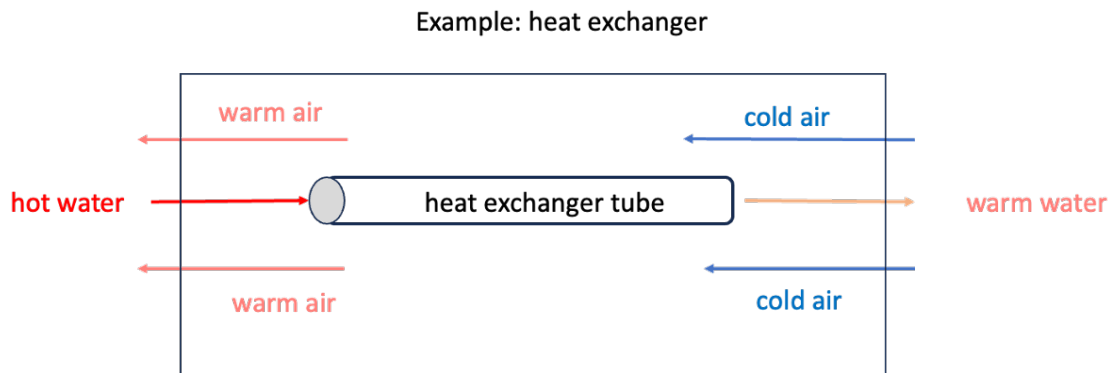

Fig. 4: Heat Exchanger
- Consider a *heat exchanger* that uses warm water to heat the air in your dorm, such as that shown in Fig. 4